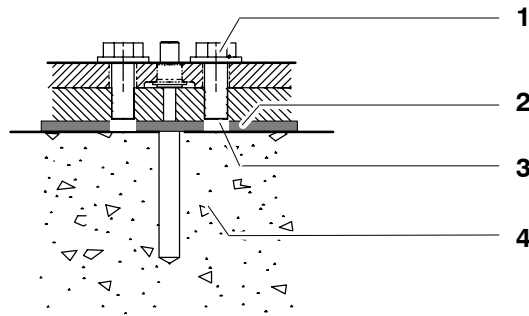

Fig. 37 Leveling compound
- (5) If necessary, determine the differences in level. If large differences in level are present, steps (6) to (9) must be followed.
- (6) Apply leveling compound (Fig. 37/2) to the concrete foundation (4) or the underside of the bedplates.